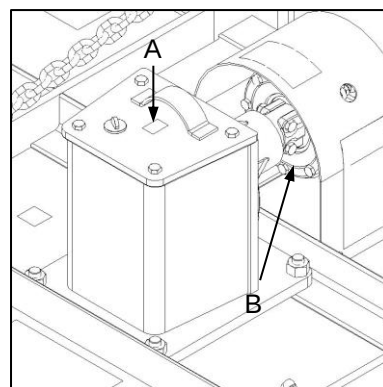

Fig. 6
- ✓ Discolouration or blistering of painted surfaces of the friction clutch housing (Fig. 6-B).
- ✓ The friction clutch housing feels significantly hotter than the surface of the gearbox casing (Fig. 6-A).
- ✓ Verkleuring of blaasvorming van geverfde oppervlakke van die wrywingkoppelaarmhulsel (Fig. 6-B).
- ✓ Die wrywingkoppelaarmhulsel voel beduidend warmer as die ratkasomhulsel (Fig. 6-A).